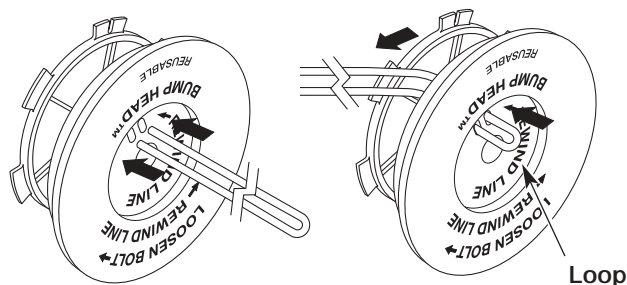

Figure 31
6. Cut approximately 25 feet (7.6 m) of new trimming line, then loop it into two equal lengths. Insert each end of the line through one of the two holes in the inner reel. Pull the line through the inner reel so that the loop is as small as possible. See Figure 31.